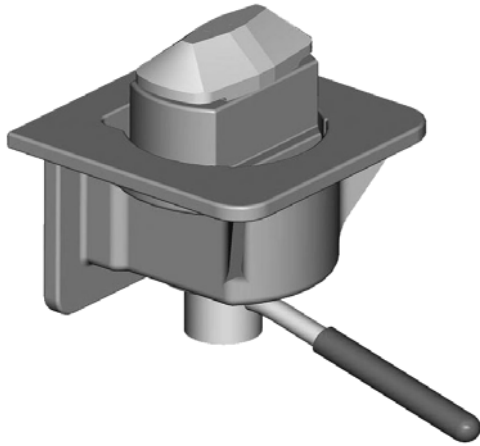

Figure 3a
- 4.1 Retractable, as per figures 3a and 3b, whereby the shearblock and stem can be lowered below the level of the top plate when not required.